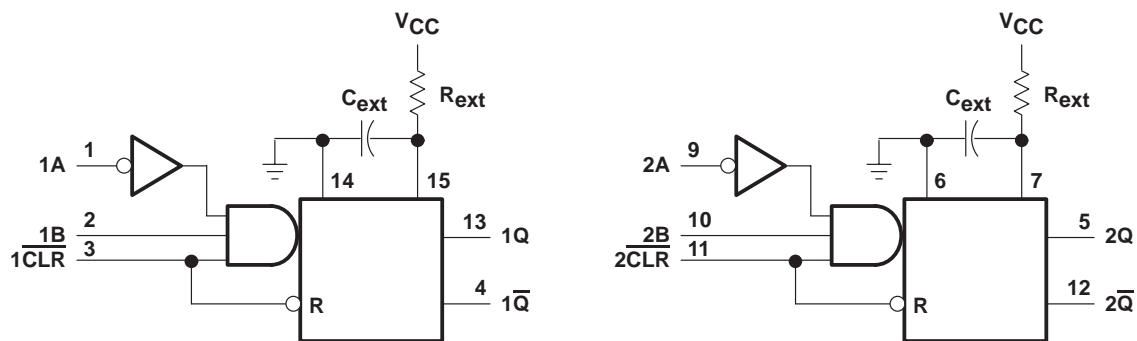

Figure 1. 'LS123 Logic Diagram
Figure 1 is a functional block diagram of the 'LS123. Each one-shot has two inputs, one active-low and one active-high, which allow both leading or trailing edge triggering. When triggered, the basic pulse duration can be extended by retriggering the gated low-level active A or high-level active B inputs, or the pulse duration can be reduced by use of the overriding clear. Therefore, an input cycle time shorter than the output cycle time will retrigger the 'LS123 and result in a continuously high Q output.
1. An external resistor (R_{ext}) and an external capacitor (C_{ext}) are required, as shown in Figure 1, for proper circuit operation.